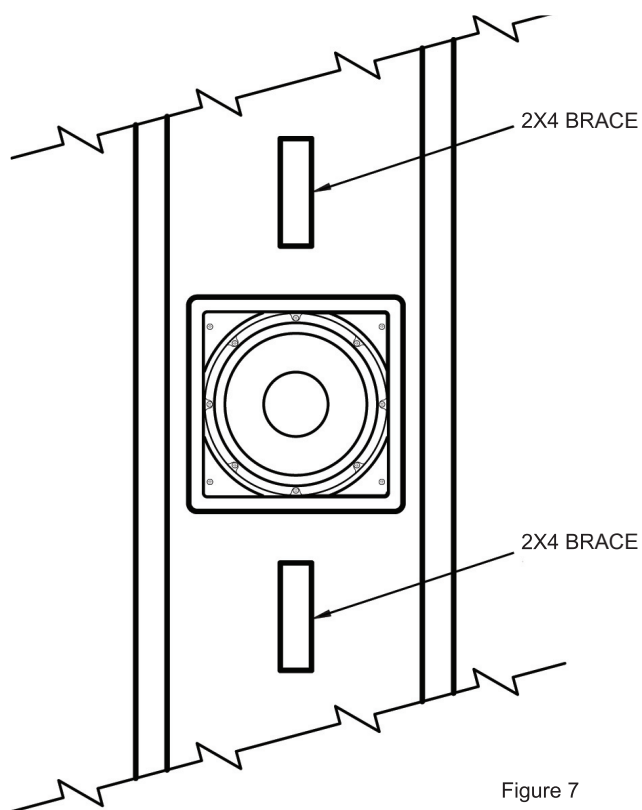

Figure 7
2. Install additional 2" x 4" bracing above and to the sides of the subwoofer cutout. Silicone caulking can be applied to both sides of the 2" x 4" to brace the wall (see Fig. 7).